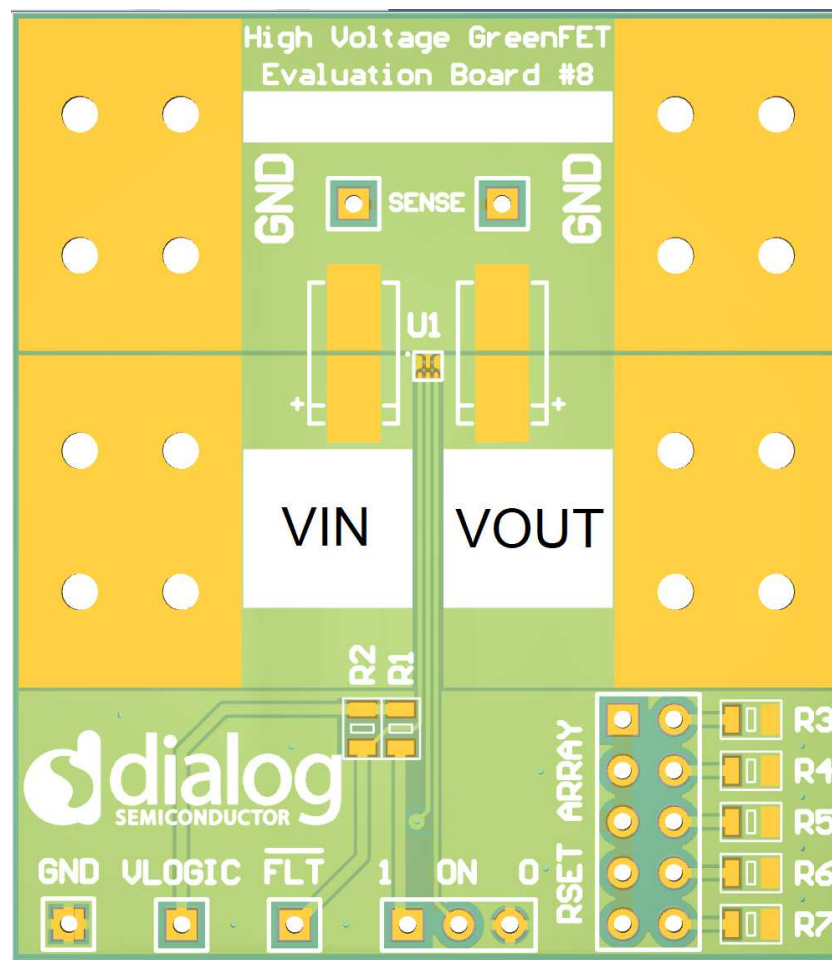

Figure 20. SLG59H1341C Evaluation Board
1. Since the VIN and VOUT pins dissipate most of the heat generated during high-load current operation, it is highly recommended to make power traces as short, direct, and wide as possible. A good practice is to make power traces with an absolute minimum widths of 15 mils (0.381 mm) per Ampere. A representative layout, shown in Figure 20, illustrates proper techniques for heat to transfer as efficiently as possible out of the device;
4. A High Voltage GreenFET Evaluation Board for SLG59H1341C is designed according to the statements above and is illustrated on Figure 20. Please note that evaluation board Sense pads. They cannot carry high currents and dedicated only for RDS_{ON} evaluation.